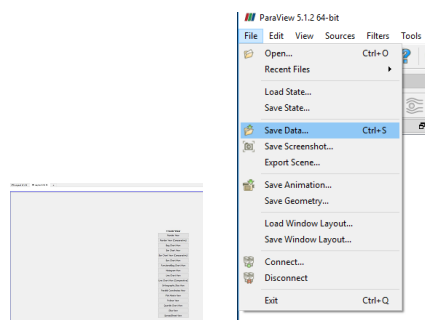

Figure 11: Output values in Excel
Step 10 Output values in Excel.(Figure.11)
- (1) Create a new Layout (Top)
- (2) Click SperadSheet View (Bottom)
- (3) Output data